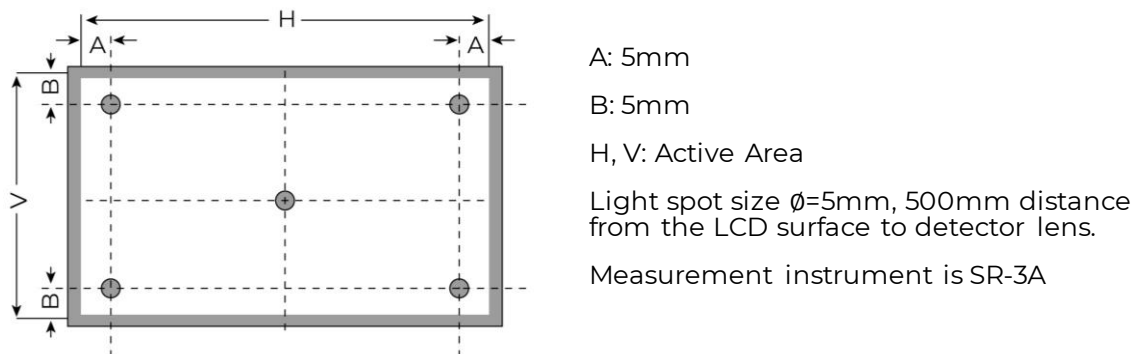

Figure 3. Measuring method for Contrast ratio, surface luminance, Luminance uniformity, CIE (x, y) chromaticity
| Contrast Ratio          | Cr                |  | 800  | 1000 | -    | ---               | FIG 3. | 1    |
| Luminance Uniformity    | $\delta$WHITE |  | -    | 75   | -    | %                 | FIG 3. | 3    |
| Surface Luminance       | Lv                |  | -    | 850  | -    | cd/m 2 | FIG 3. | 2    |
| CIE (x, y) Chromaticity | Rx                | $\theta=0^\circ$$\phi=0^\circ$$T_a=25^\circ\text{C}$ | 0.22 | 0.26 | 0.30 | -                 | FIG 3. | 5    |
**Note 1.** Contrast Ratio (CR) is defined mathematically as below, for more information see Figure 3.
**Note 2.** Surface luminance is the LCD surface from the surface with all pixels displaying white. For more information see Figure 3.
**Note 3.** The uniformity in surface luminance  $\delta$  WHITE is determined by measuring luminance at each test position 1 through 5, and then dividing the minimum luminance of 5 points luminance by maximum luminance of 5 points luminance. For more information see Figure 3.